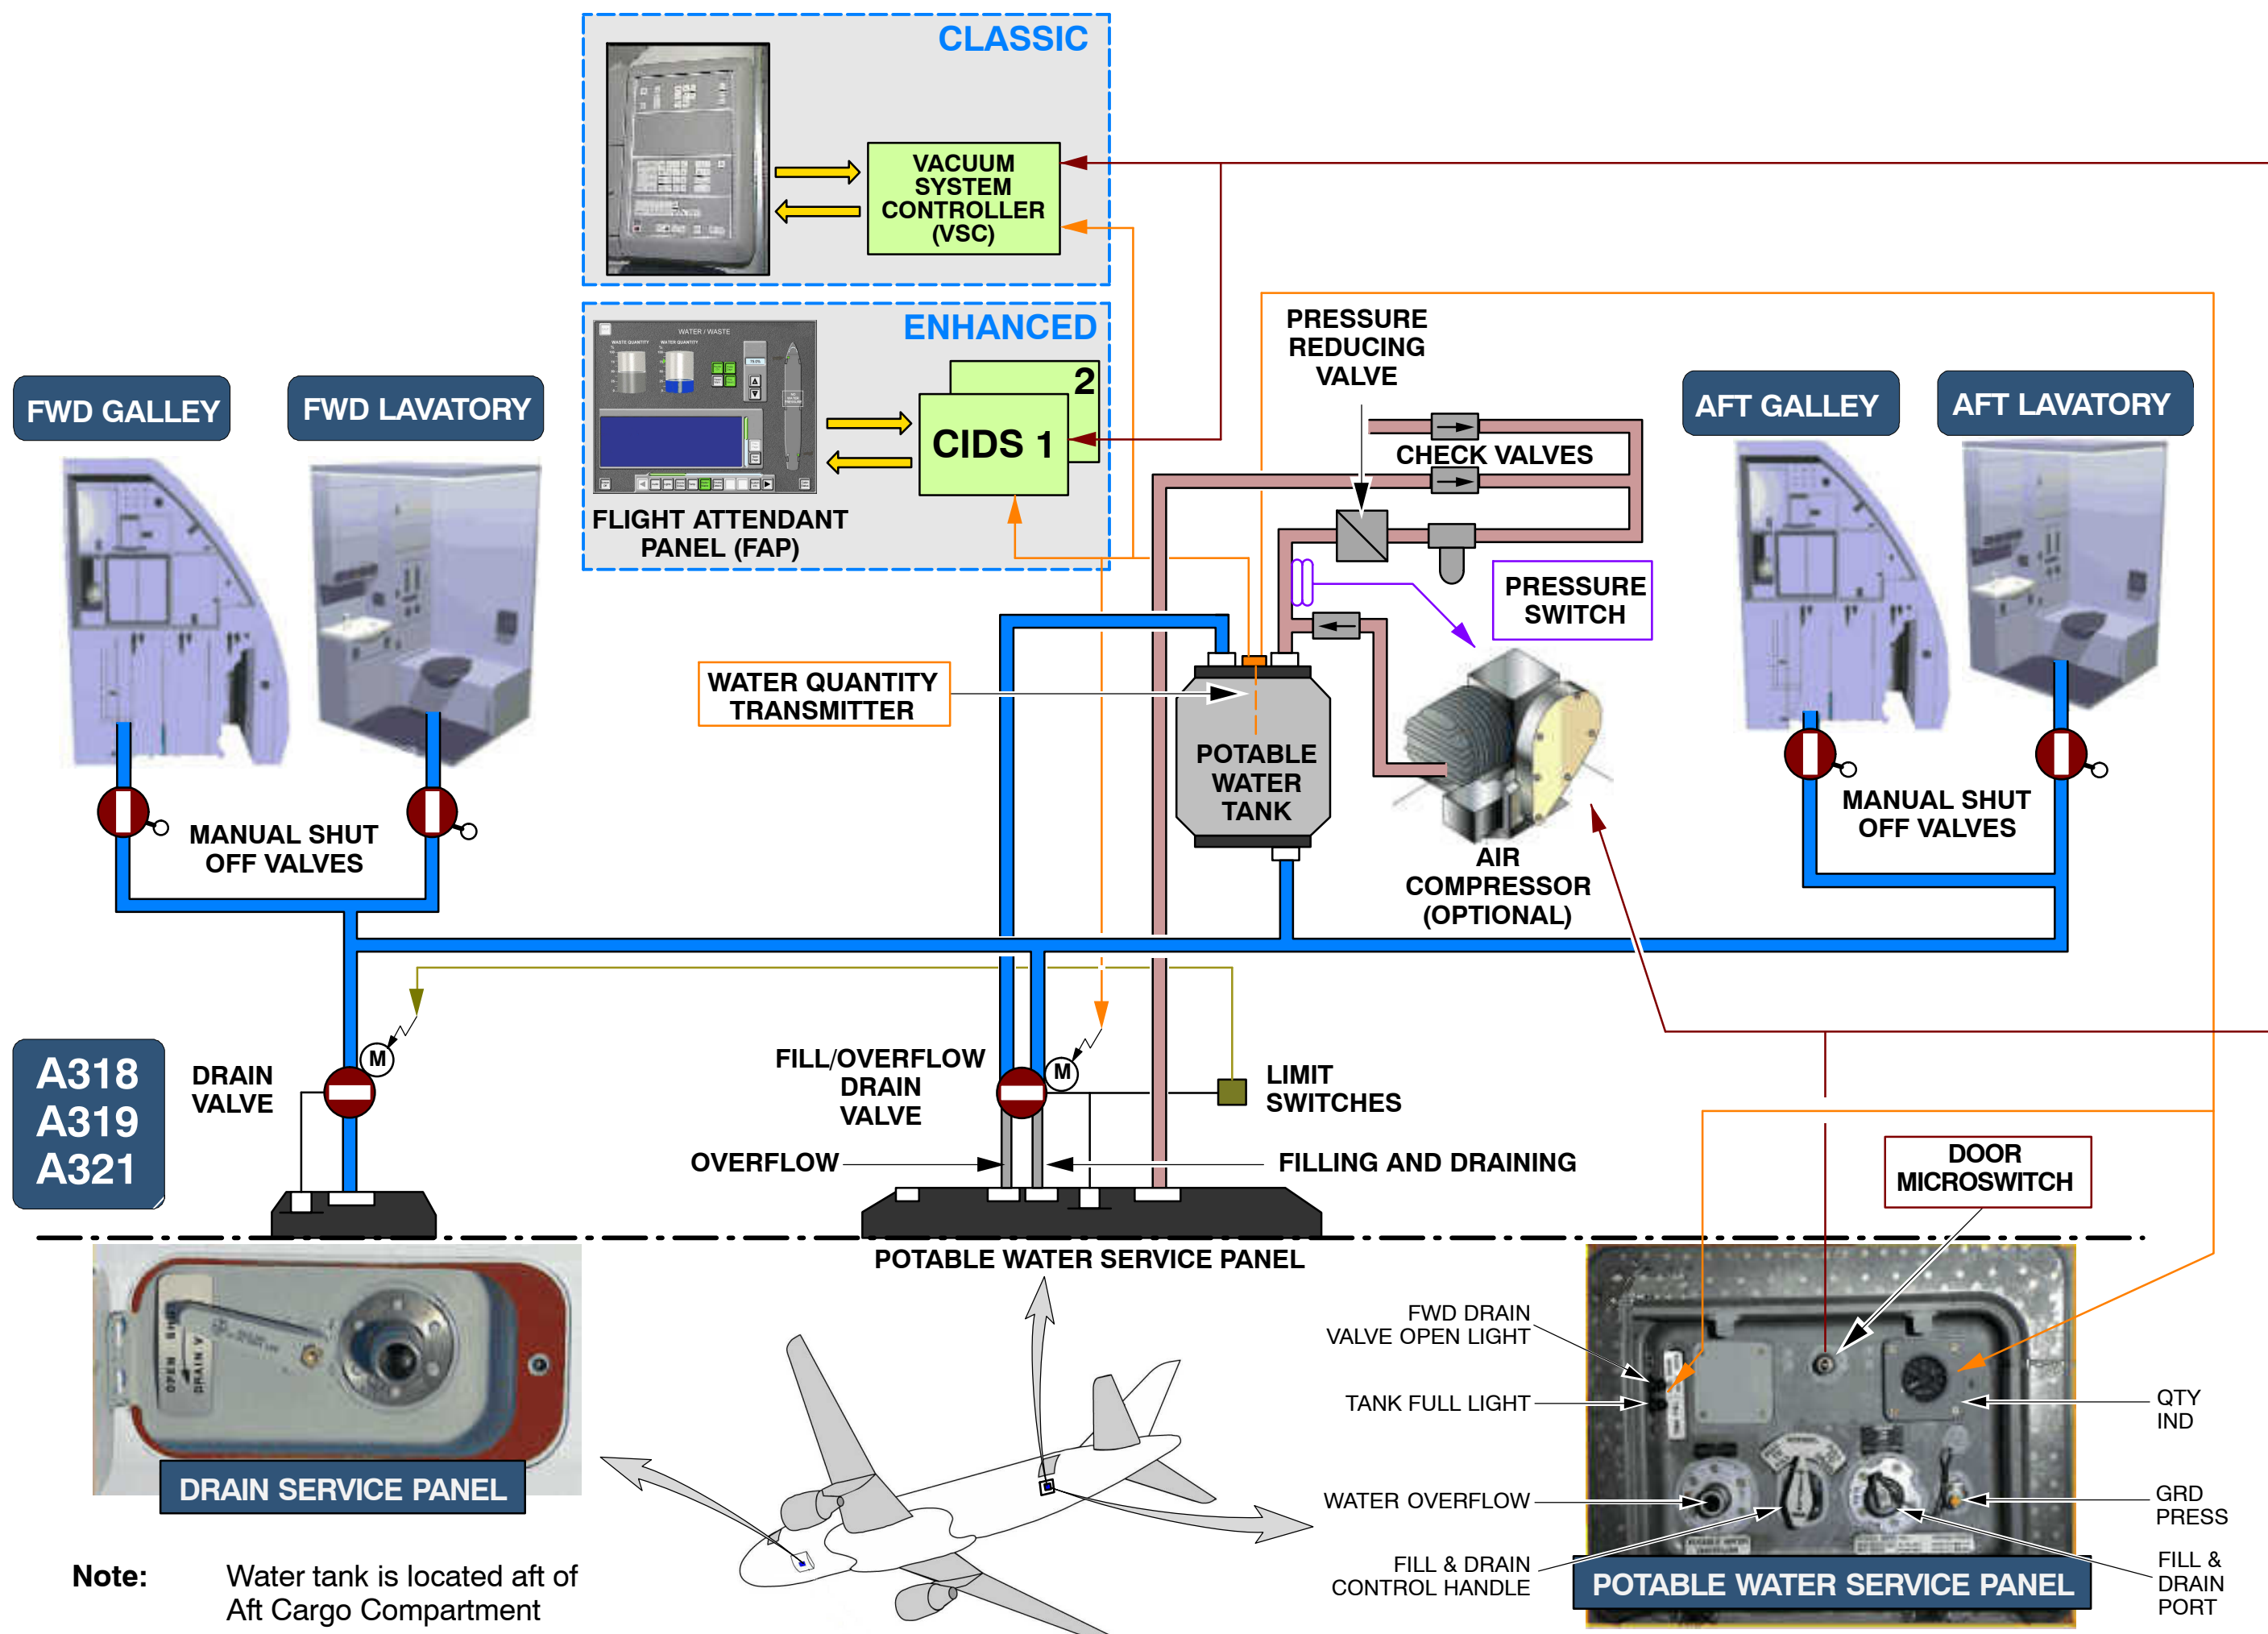

Figure 79 Potable Water System Schematic (A318/A319/A321)
*Reference to Figure 79 Potable Water System Schematic (A318/A319/A321)*